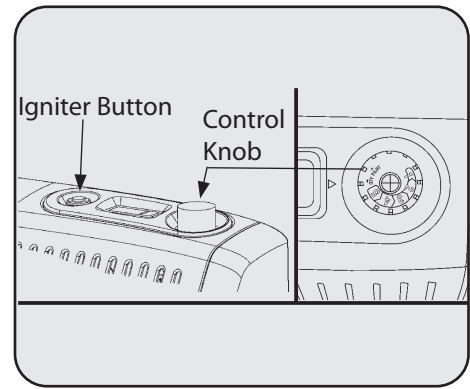

Figure 16
3. Push in gas control knob and slightly turn clockwise  to the OFF position See Figure 16.